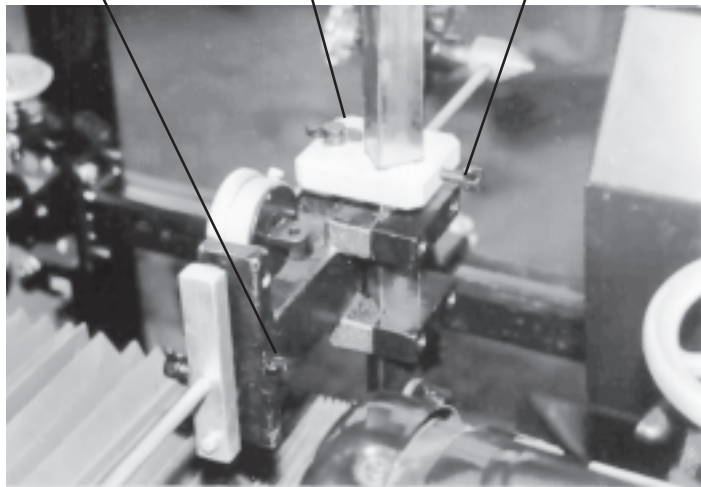

FIG. 39
- A. Move the grinding head assembly until the set up fixture is approximately 1" from the right side of the reel. Lock the Knob A within approximately 1/4" of center shaft of the reel. See FIG. 39.
- D. Pull rod back and lock Knob C. See FIG. 39. Traverse to the other side of reel, same distance from end. Loosen Knob C and extend alignment rod.
- B. Lower the indicator slide casting on the vertical support so the indicator rod can make contact with the center of the reel shaft within approximately 1/8" and lock Knob A. See FIG. 39. Center shaft should be clean and free of rust where rod makes contact. Now fine adjust using Knob B until at the center of the center shaft of the reel. See FIG. 41.
- D. Now set the outer dial indicator to the "0" position. Read and note the position of the smaller (.100) dial. You must know this reading when setting up the other side. Pull back and lock with Knob C. See FIG. 39.